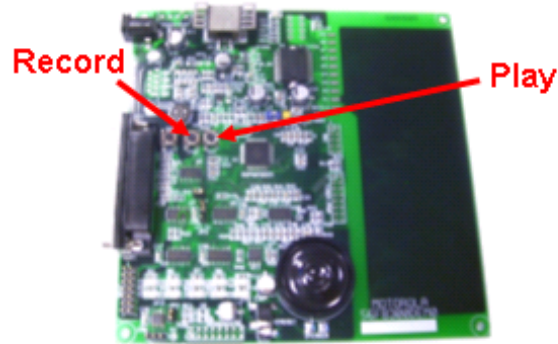

Figure 2-1. Voice Recorder Demo Button Usage
- The IRQA button will be used to **START** recording voice; see Figure 2-1
- The **SW2** button will be used to play back the recorded voice; see Figure 2-1